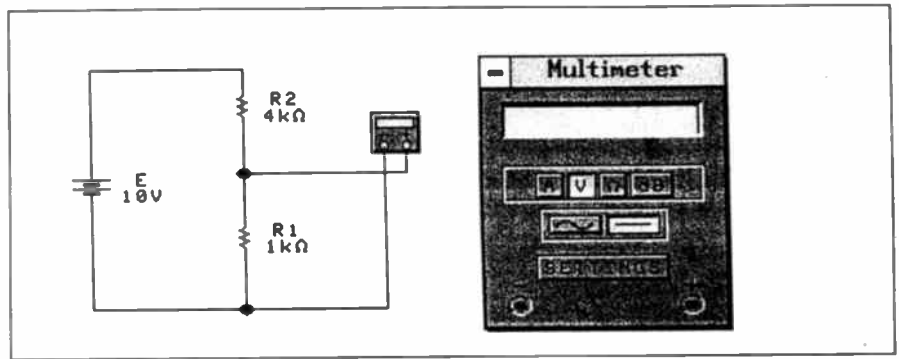

Fig. 1.23. Circuit for assignment 1.4 (measuring voltage drops).
1. Assemble the circuit shown in Fig. 1.23 (with the meter connected in parallel with R_1). Select "V" and "d.c." on the multimeter's push buttons. Then click the mouse on the "Settings" button. Change the settings so that the ammeter resistance is "1Ω" and the voltmeter resistance is "10MΩ". These values are reasonably typical of a real instrument. Now click on the "Accept" button to return to the circuit and switch the power "on". Note down the indication produced by the meter.